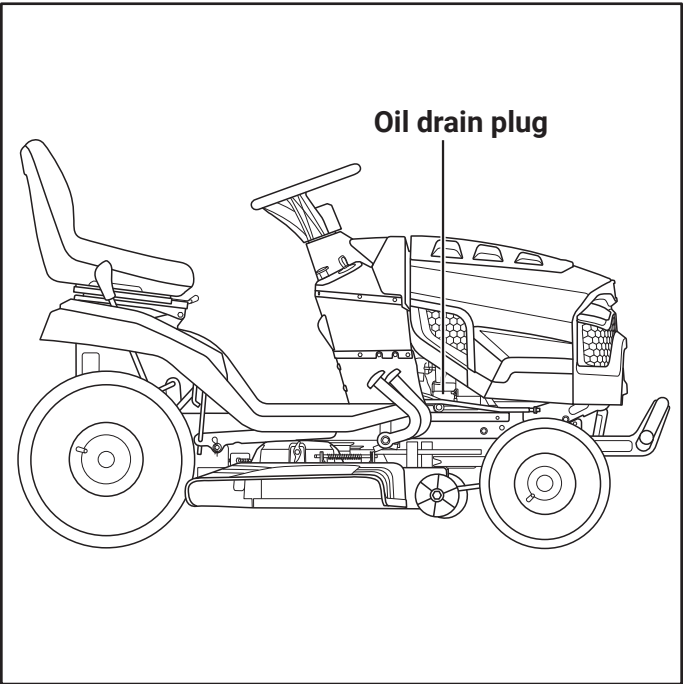

Fig. 36A
1. Put the unit on a level surface.(Fig. 36A)
3. Place the oil drain sleeve (included with tractor) under the drain plug.(Fig. 36A)